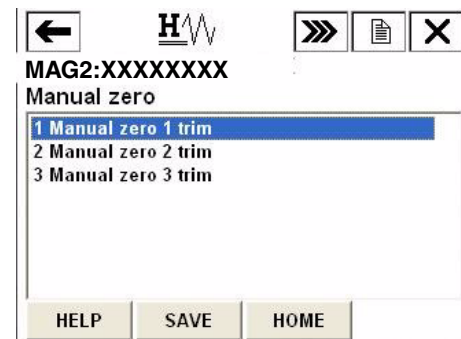

Figure 107.
Figure 107 is then displayed.
2. Once the display as shown Figure 107 appears, move the arrow key up or down to select a manual zero to be adjusted.